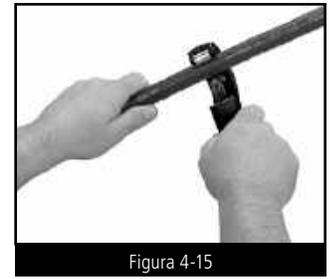

Figura 4-15
PASO 1 CORTAR LA LONGITUD DESEADA (FIGURA 4-15)